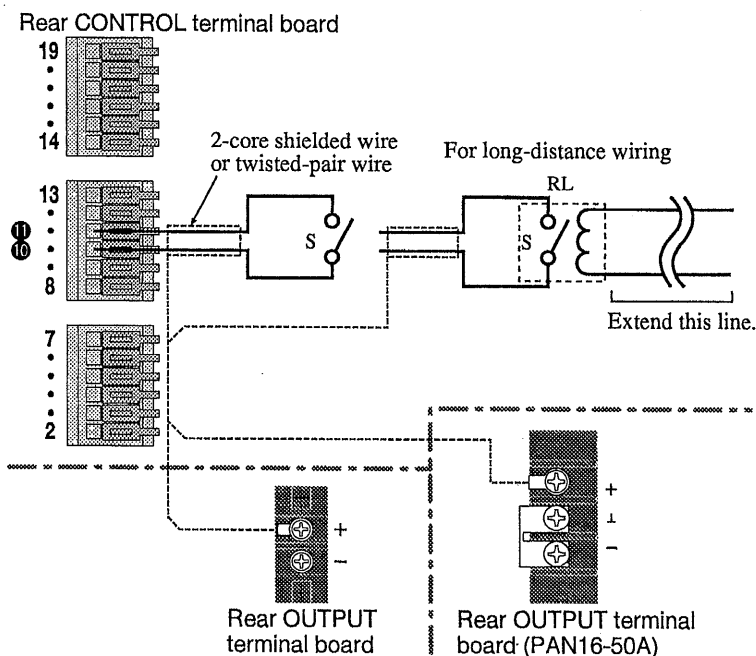

Fig. 3-10 Output ON/OFF control connection
- ① Turn off the OUTPUT switch.
- ② Turn off the POWER switch.
- ③ Connect the contact points S (switch) across the control terminals ⑩ and ⑪ as shown in Fig. 3-10.